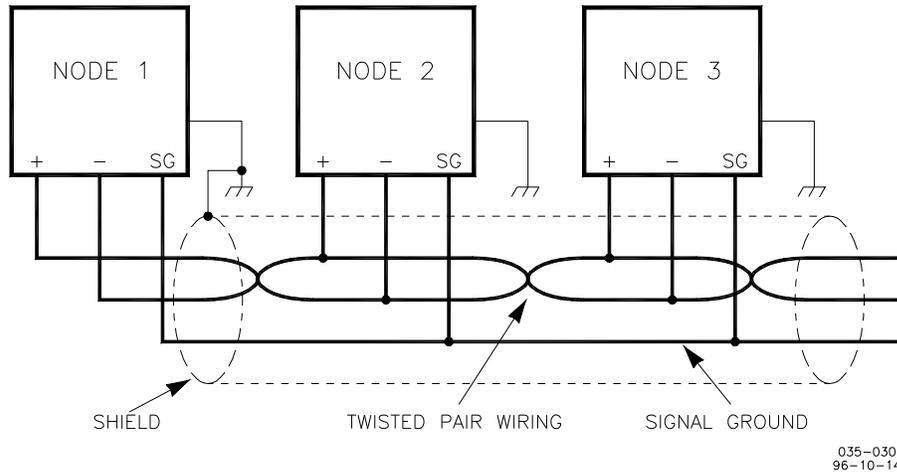

Figure A-5. Preferred Multipoint Wiring Using Shielded Twisted-pair Cable with a Separate Signal Ground Wire
The RS-422 specifications state that a ground wire is needed if there is no other ground path between units. The preferred method to do this is to include a separate wire in the cable that connects the circuit grounds together. Connect the shield to earth ground at one point only. The alternate way is to connect all circuit grounds to the shield, and then connect the shield to earth ground at one point only. If the latter method is used, and there are non-isolated nodes on the party line, connect the shield to ground at a non-isolated node, not an isolated node. Figures A-5 and A-6 illustrate these cabling approaches.
**IMPORTANT** Non-isolated nodes may not have a signal ground available. If signal ground is not available, use the alternate wiring scheme in Figure A-5 with the signal ground connection removed on those nodes only.